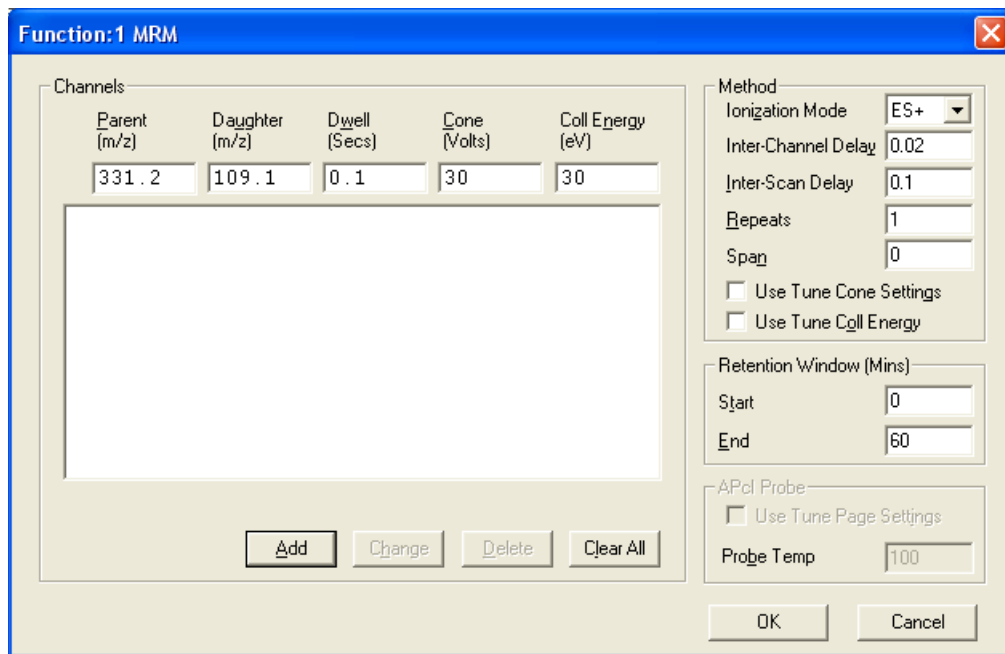

Figure 3-8 MRM Function Editor
3. Click  to open the MRM Function Editor (Figure 3-8).